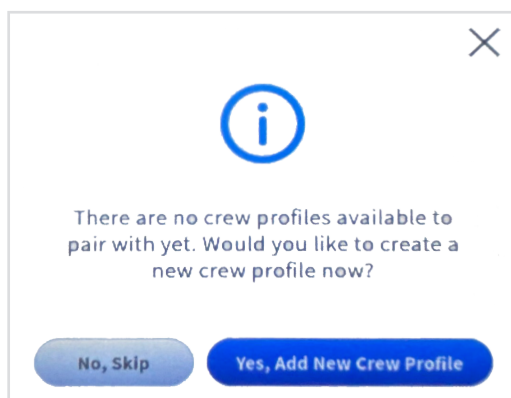
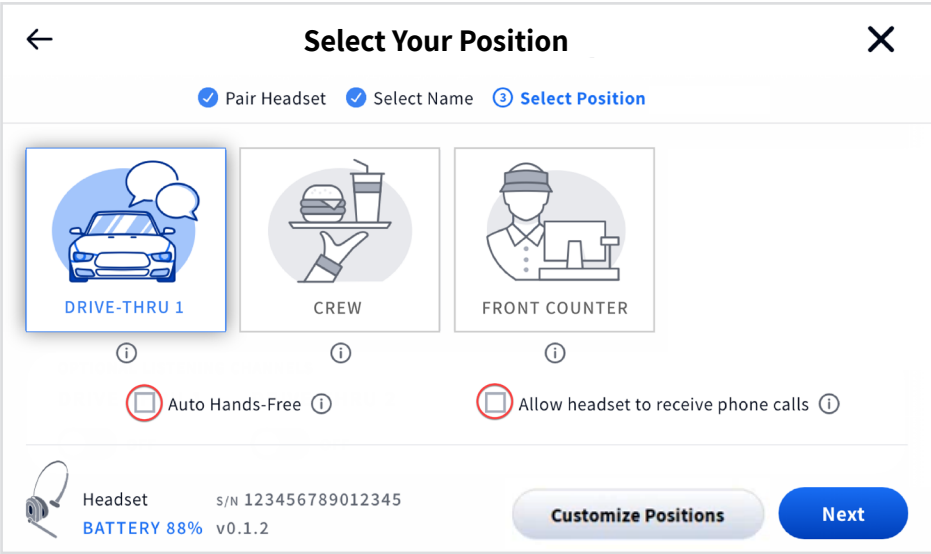

Fig. 1.21
Fig. 1.23
- *** The group you are calling must be a current designated position, see Fig. 1.23 for example. You must tap  on the headset to exit this state and return to your previous position.
Once your headset is successfully paired, one of two dialog boxes appears. If there are no crew profiles set up in the system, then Fig. 1.21 will appear. Tap the **No, Skip** button to continue as a guest (this will open the “Select Your Position & Options dialog,” see Fig. 1.23). Or, tap the **Yes, Add New Crew Profile** button (this will open the Create Crew Profile dialog, see “Chapter 2 - Crew” on page 16 and Fig. 2.2).
When the **Select Your Position** dialog appears (Fig. 1.23), you are prompted to select a position. Tap on one of the available tiles to select it (DRIVE-THRU 1 is selected in Fig. 1.23). If you are selecting the DRIVE-THRU position, you also have the option of **Auto Hands-Free** mode (the first checkbox located below the position tiles). This allows you to connect with a new customer without having to connect manually by tapping the headset keypad.
The other checkbox option is **Allow headset to receive phone calls** (see Fig. 1.23). Stores that have a landline telephone may wish to have it connected to the NEXEO system so that a NEXEO headset can be used to receive incoming phone calls. When this box is checked, the  (Action) key on a designated headset keypad can be used to answer incoming calls. Only one headset can be designated to receive phone calls, and your system must have a TI7000 installed. The TI7000 is a Telephone Interface module used to connect the store telephone to the base station. The TI7000 must also be enabled on the base station. See **Telephone Interface** under “Settings” on page 27.